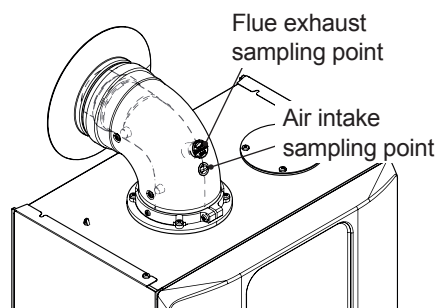

Figure 9.3
- 8 Fit the probe of the flue analyser in the flue exhaust sampling point located on the exhaust pipes of the boiler (Figure 9.3).